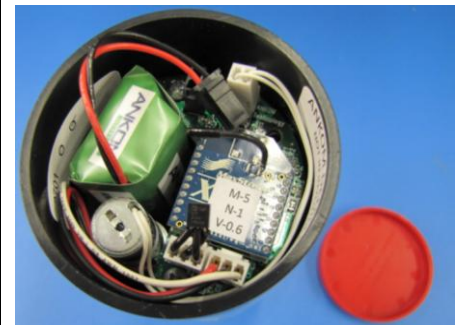

Figure 8
8. Repeat steps 6 through 3, in reverse order, screwing the circuit board back in place, reconnecting the two-wire solenoid connector, the three-wire pressure sensor connector and the temperature sensor. Set the battery back in place, but do not plug in until ready for use. Reassembled module should appear as shown in Figure 8. Module is now ready to be tested per Service Procedure 171 (SP-171) which can be found at: <http://www.ankom.com/service-procedures-rf.aspx>.